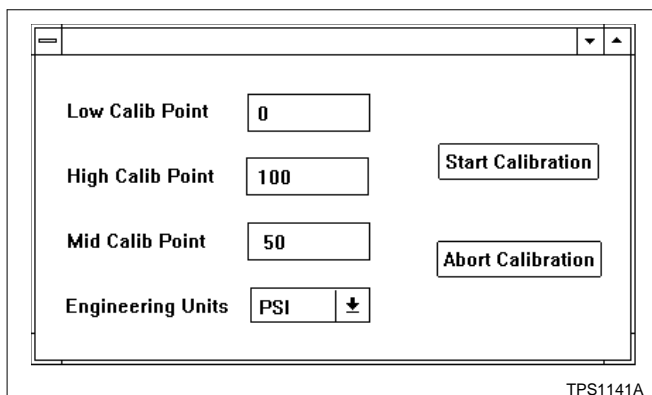

Figure 3-9. Calibration Dialog Box (BCN)
2. Select *Calibration*, then *Bench Calibration* (**CTRL-B**). A calibration dialog box appears similar to Figure 3-9.